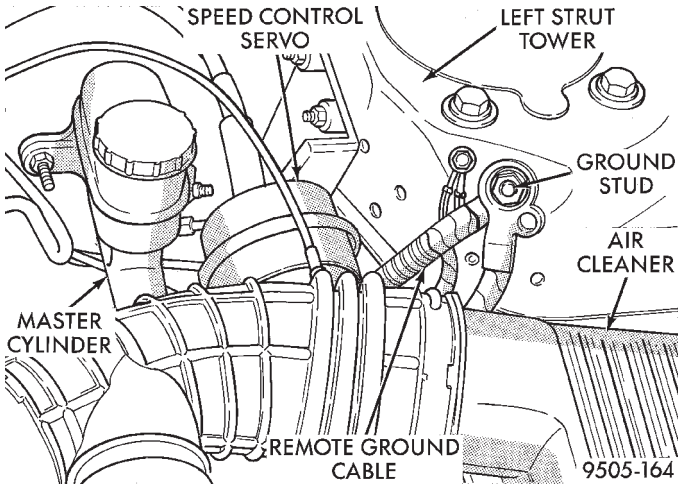

Fig. 116 Ground Cable Attachment At Strut Tower
(1) Remove the remote ground cable from the ground stud located on the left strut tower (Fig. 116).
(10) Gently pull back on the brake pedal until it stops moving. This will cause the switch plunger to ratchet back to its correct position.
(11) Install the silencer panel/air duct.
(12) Connect the remote ground cable for the battery on the ground post located on left shock tower (Fig. 116).